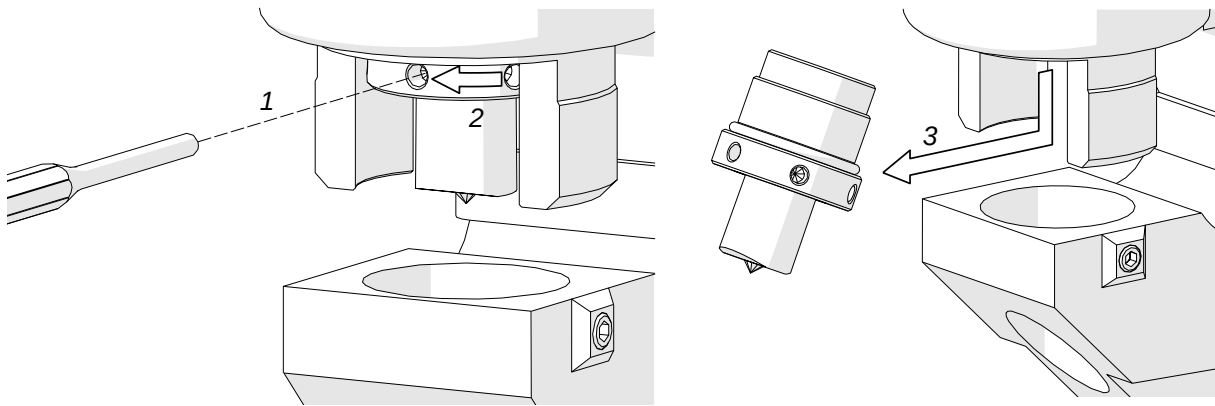
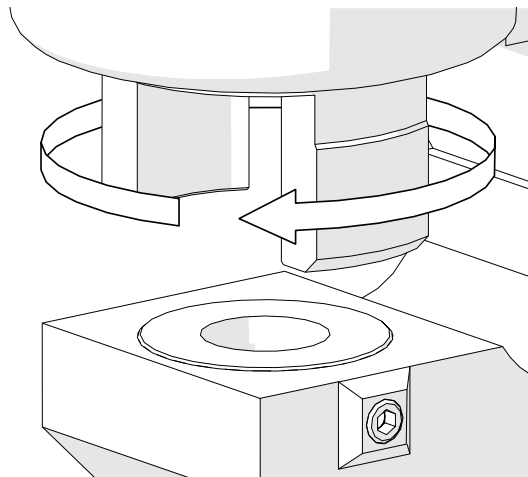

Fig. 11. Dismounting the punch
Fig. 12. Removing the restrainer
To dismount the punch, insert the wrench into the hole (1, Fig. 11), unscrew the nut by rotating it in direction 2, and remove the nut joined with the punch (3).
Set the power ON/OFF switch to position 'O', dismount the punch as shown in Fig. 11, and unscrew the restrainer by rotating it in the direction shown in Fig. 12. Screw the new restrainer by rotating in the opposite direction.